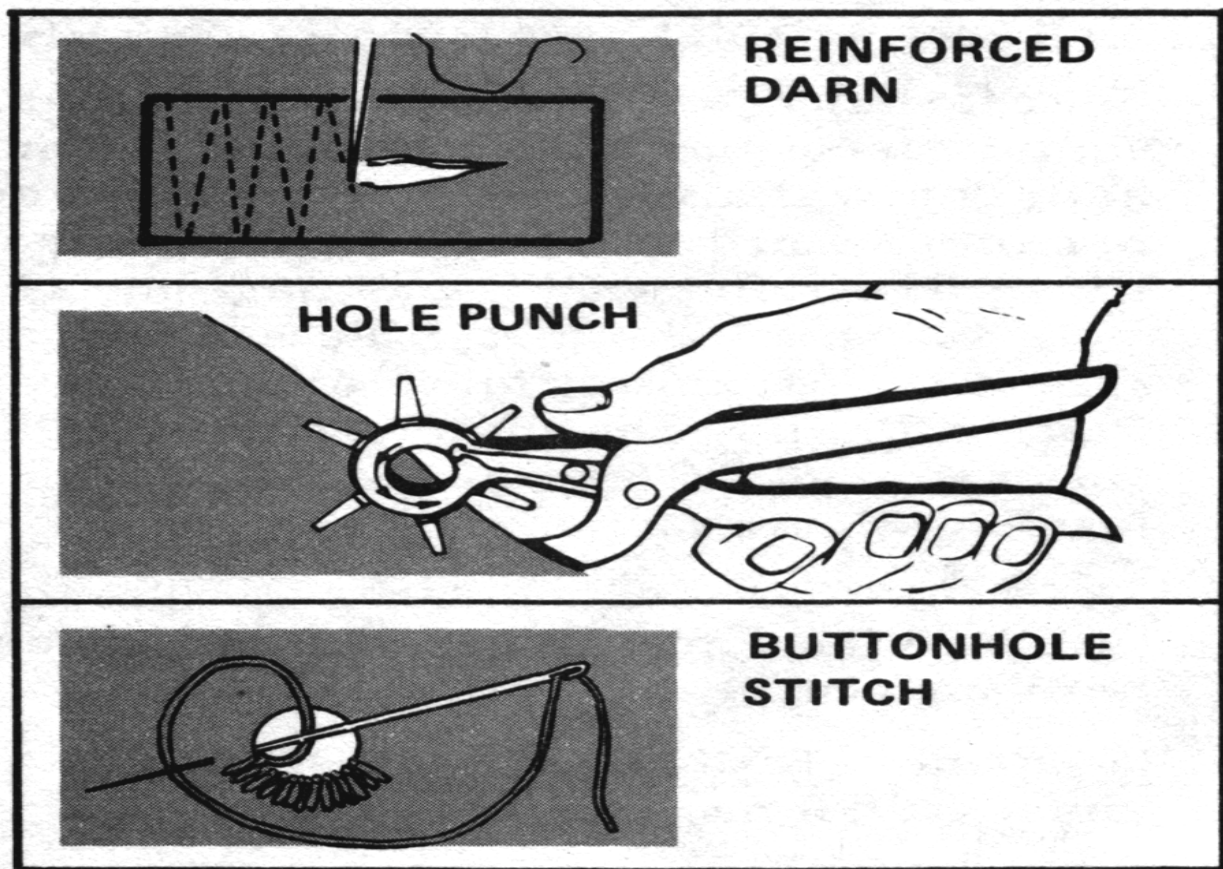

Figure 4-16. Repairing a stitched eyelet
a. Repairing Stitched Eyelets. To repair stitched eyelets (Figure 4-16)--
- (1) Cut and remove all the buttonhole stitches around the eyelet. Clean away all pieces of thread.
- (2) Close the hole with a reinforced darn.
- (3) Use the appropriate punch on a hole punch to make a new hole for the eyelet.
- (4) Sew buttonhole stitches around the raw edges of the hole.